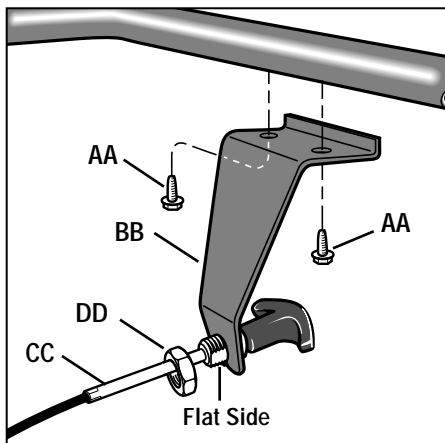
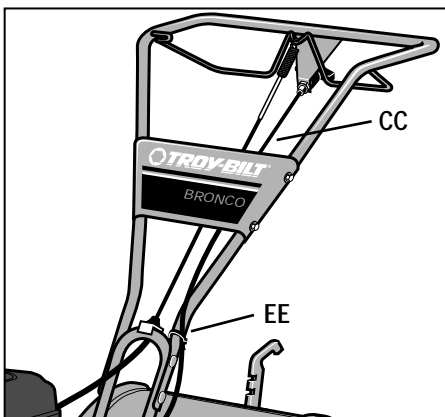

Fig. 2-8: Install reverse cable bracket and reverse clutch cable.
Fig. 2-9: Route reverse clutch cable (CC) as shown. Attach with cable tie (EE).
1	Bracket, reverse clutch cable (see BB, Fig. 2-8, page 9)
1. Remove the two pre-installed self-tapping screws (AA, Fig. 2-8) from the handlebars. Position the reverse cable mounting bracket (BB, Fig. 2-8) as shown and reinstall the two self-tapping screws.
2. Unwrap the reverse clutch cable (the cable with a knob and a large hex nut attached to it) from around its shipping position and route the cable (CC, Fig. 2-8 and Fig. 2-9) up to the cable bracket (BB, Fig. 2-8). Be sure that the cable goes beneath the Forward Clutch Bail as it is routed up to the cable bracket.
3. Insert the cable up through the slot in the cable bracket and position the threaded assembly as shown in Fig. 2-8. Make sure that the flat side of the threaded assembly is aligned with the flat side of the mounting hole. Slide the large hex nut (DD) up the cable and tighten it securely.
4. Fasten the reverse clutch cable to the left side handlebar with a cable tie (EE, Fig. 2-9).